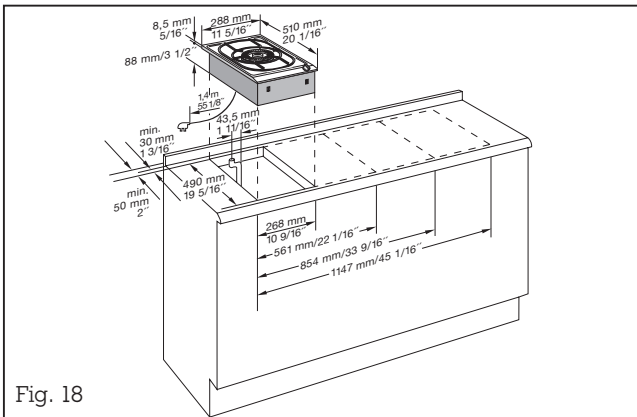

Fig. 18
**Important:** the angle between the cut surface and the worktop must amount to 90° (Fig. 18).